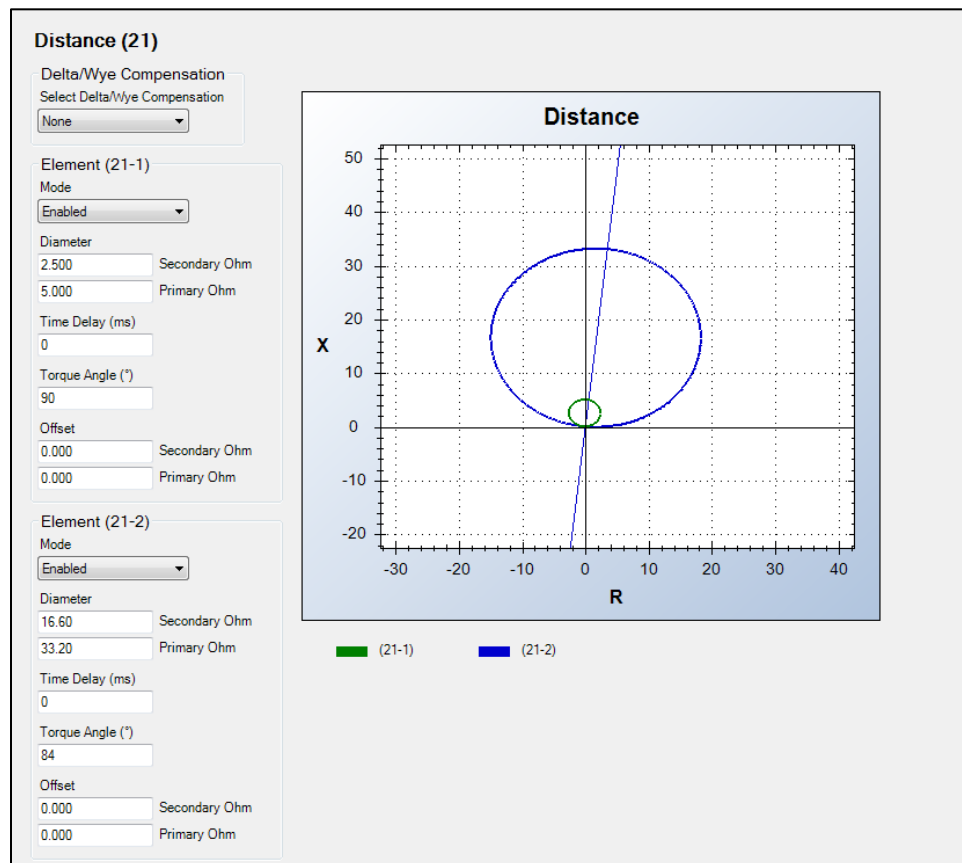

Figure 19-2. Distance Settings Screen
Distance element operational settings are configured on the Distance (21) settings screen (Figure 19-2) in *BESTCOMSPlus*.